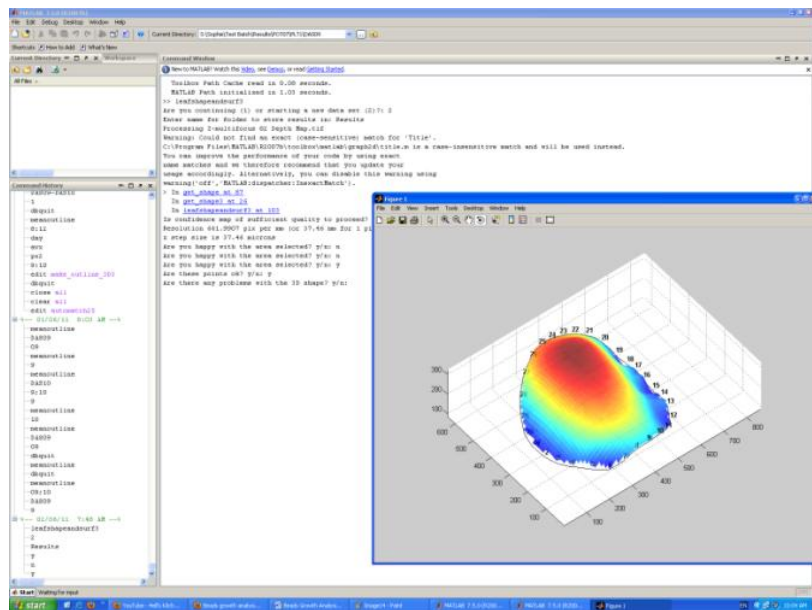

Figure 9. 3D leaf shape
6. The program will analyse the 3D shape of the leaf (Figure 9). Click and move the mouse around on the figure to rotate the leaf. If satisfied with the given 3D shape, press "n" to continue to the next image.